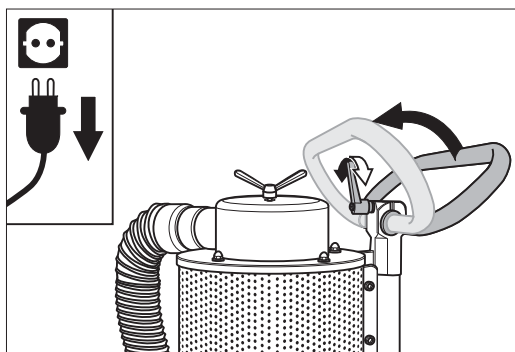

Fig. 33 To tilt the machine, release the clamping lever of the handle, press the handle forwards and pull the clamping lever back into its prior position.
- 3 Release the clamping lever of the handle, press the handle forwards and pull the clamping lever back into its prior position (Fig. 33).